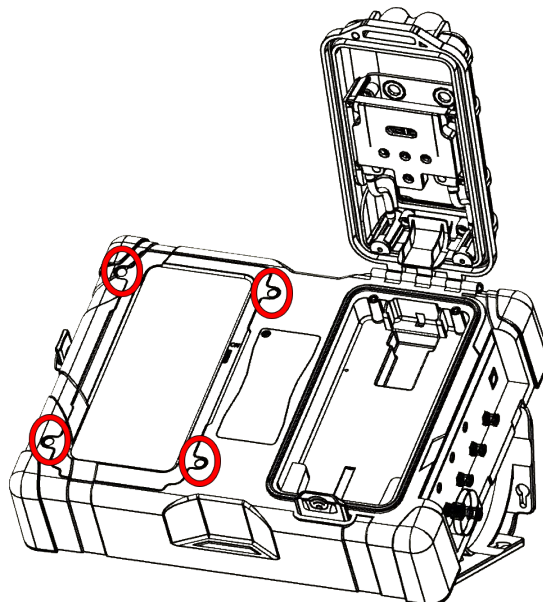

Figure 2. SST Dock touch screen holder screws
- **Step 2:** Unscrew the 4 screws on the touch screen holder, as seen in Figure 2 below.